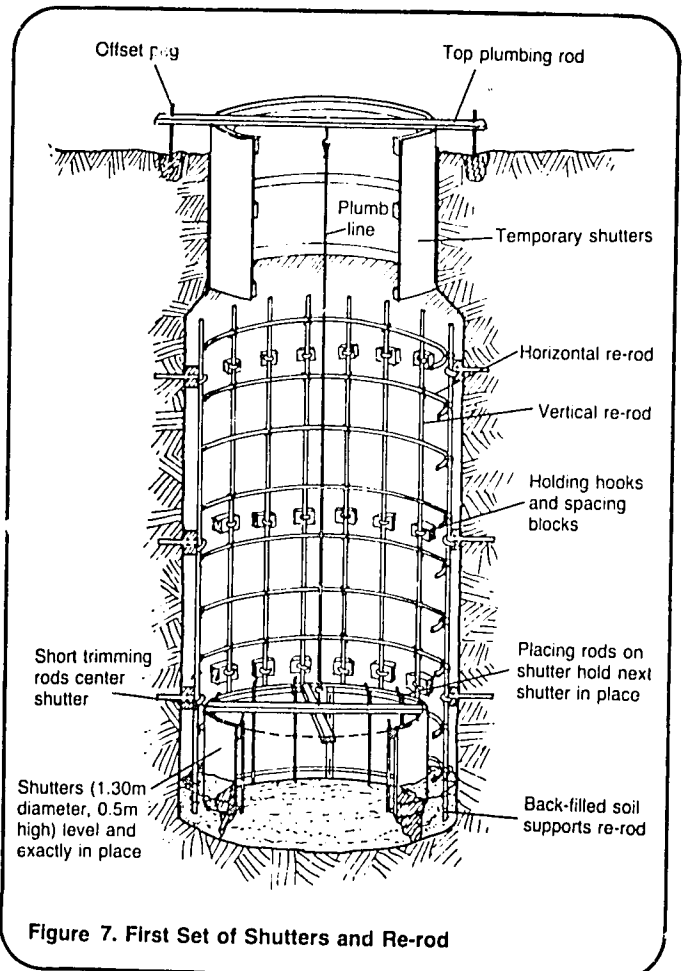

Figure 7. First Set of Shutters and Re-rod
8. A set of shutters, 1.3m in diameter and 0.5m high, is oiled and then lowered to the bottom of the shaft. Set the shutters precisely in place by suspending the short trimming rods 1.3m long and lining up the edges of the shutters directly beneath the ends of the rods. Use a spirit level to be certain that the shutters are level. It is essential that these shutters be exactly in place and perfectly level, or else the entire lining will be out of line. See Figure 7.
9. Position 20 lengths of vertical re-rod, each length 4.0m long and 8mm in diameter, behind the shutters and around the shaft walls. Fix the rods to the walls about 200mm apart using spacing blocks and holding hooks. Backfill behind the shutters with soil to help hold the rods in place, as shown in Figure 7.
10. On the surface, shape horizontal re-rods into circles 1.38m in diameter. You will need three or four horizontal re-rods for each meter of depth. Lower the re-rods and fasten them to the inside of the vertical re-rods about 50-300mm apart, as shown in Figure 7. They will make the reinforcement cage strong and secure. Use a wire brush to remove all dirt from the re-rods.